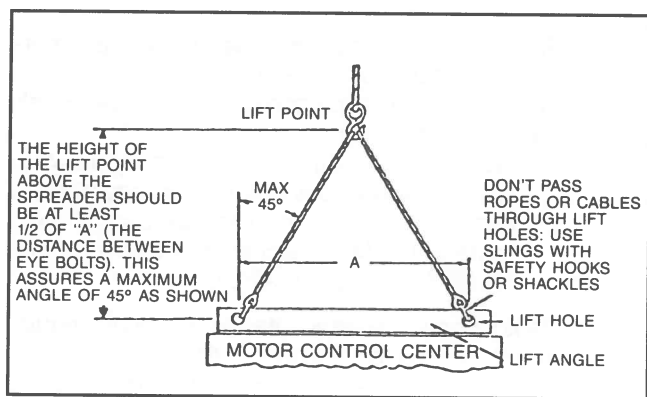

Fig. 3 Correct Use of Lifting Angle
1. See Figure 3 for recommended lifting configuration.